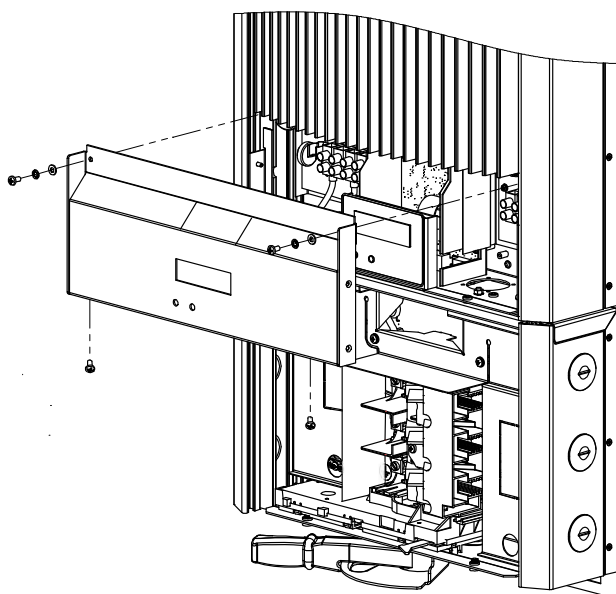

Figure 6-2 Display Front Panel Assembly
5. Remove the wiring/disconnect box cover (see Figure 3-4 on page 3–8) and the display front panel cover (see Figure 6-2 on page 6–9), and then use a properly rated voltage sensing device at all line and load-side terminals to confirm power is off.
4. Remove the display front panel cover (see Figure 6-2), located below the heat sink. Use a Phillips screwdriver to remove the two external panhead screws and washers and the two screws along the bottom edge of the cover.
2. Remove the wiring/disconnect box cover, and then remove the display front panel cover (see Figure 3-4 on page 3–8 and Figure 6-2 on page 6–9).
3. If it has not already been removed, remove the display front panel cover on the inverter (see Figure 6-2 on page 6–9).